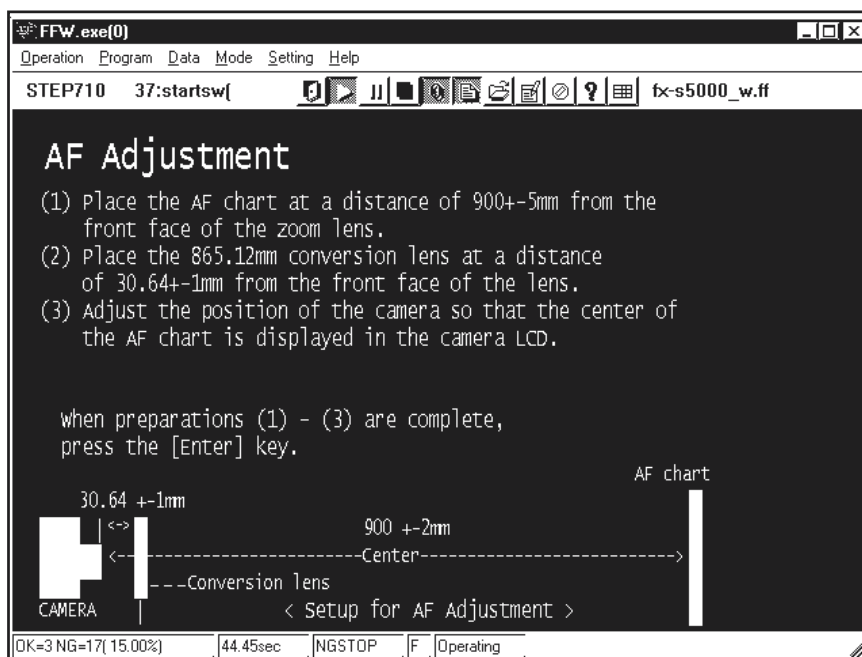

Fig.19
--->The [AF Adjustment Start screen(Fig19)] appears.